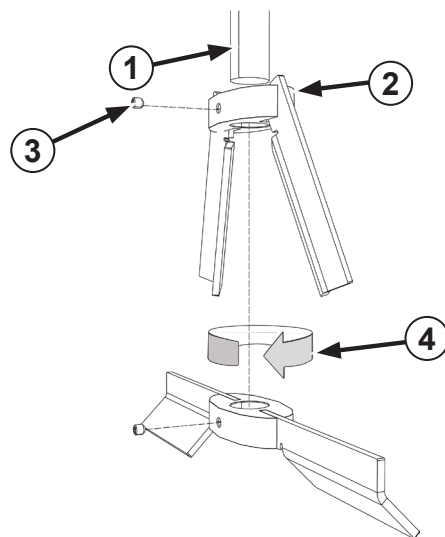

Figure 12. Folding Impeller
1. Install the FLP (2) into the shaft (1) noting the specific orientation, see rotation (4) in "Figure 12. Folding Impeller".
2. Secure with a set screw (3) and tighten to specification.